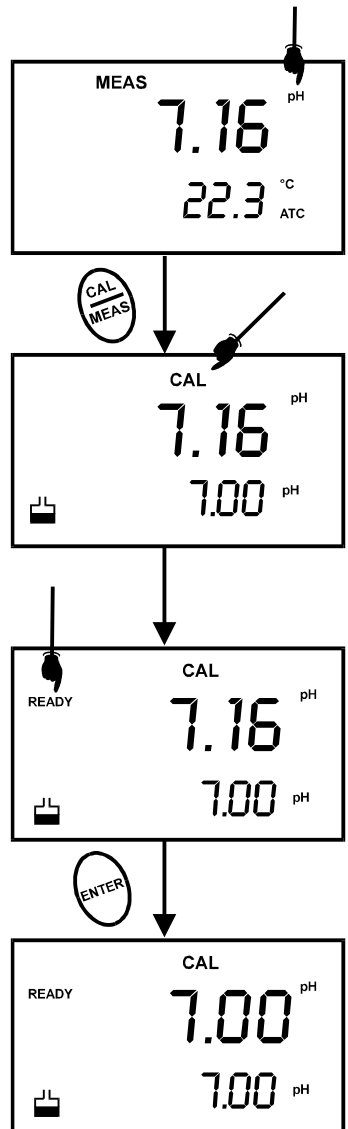

Figure 5 - pH Calibration
- 5 Wait for the measured pH value to stabilize. See Figure 5.